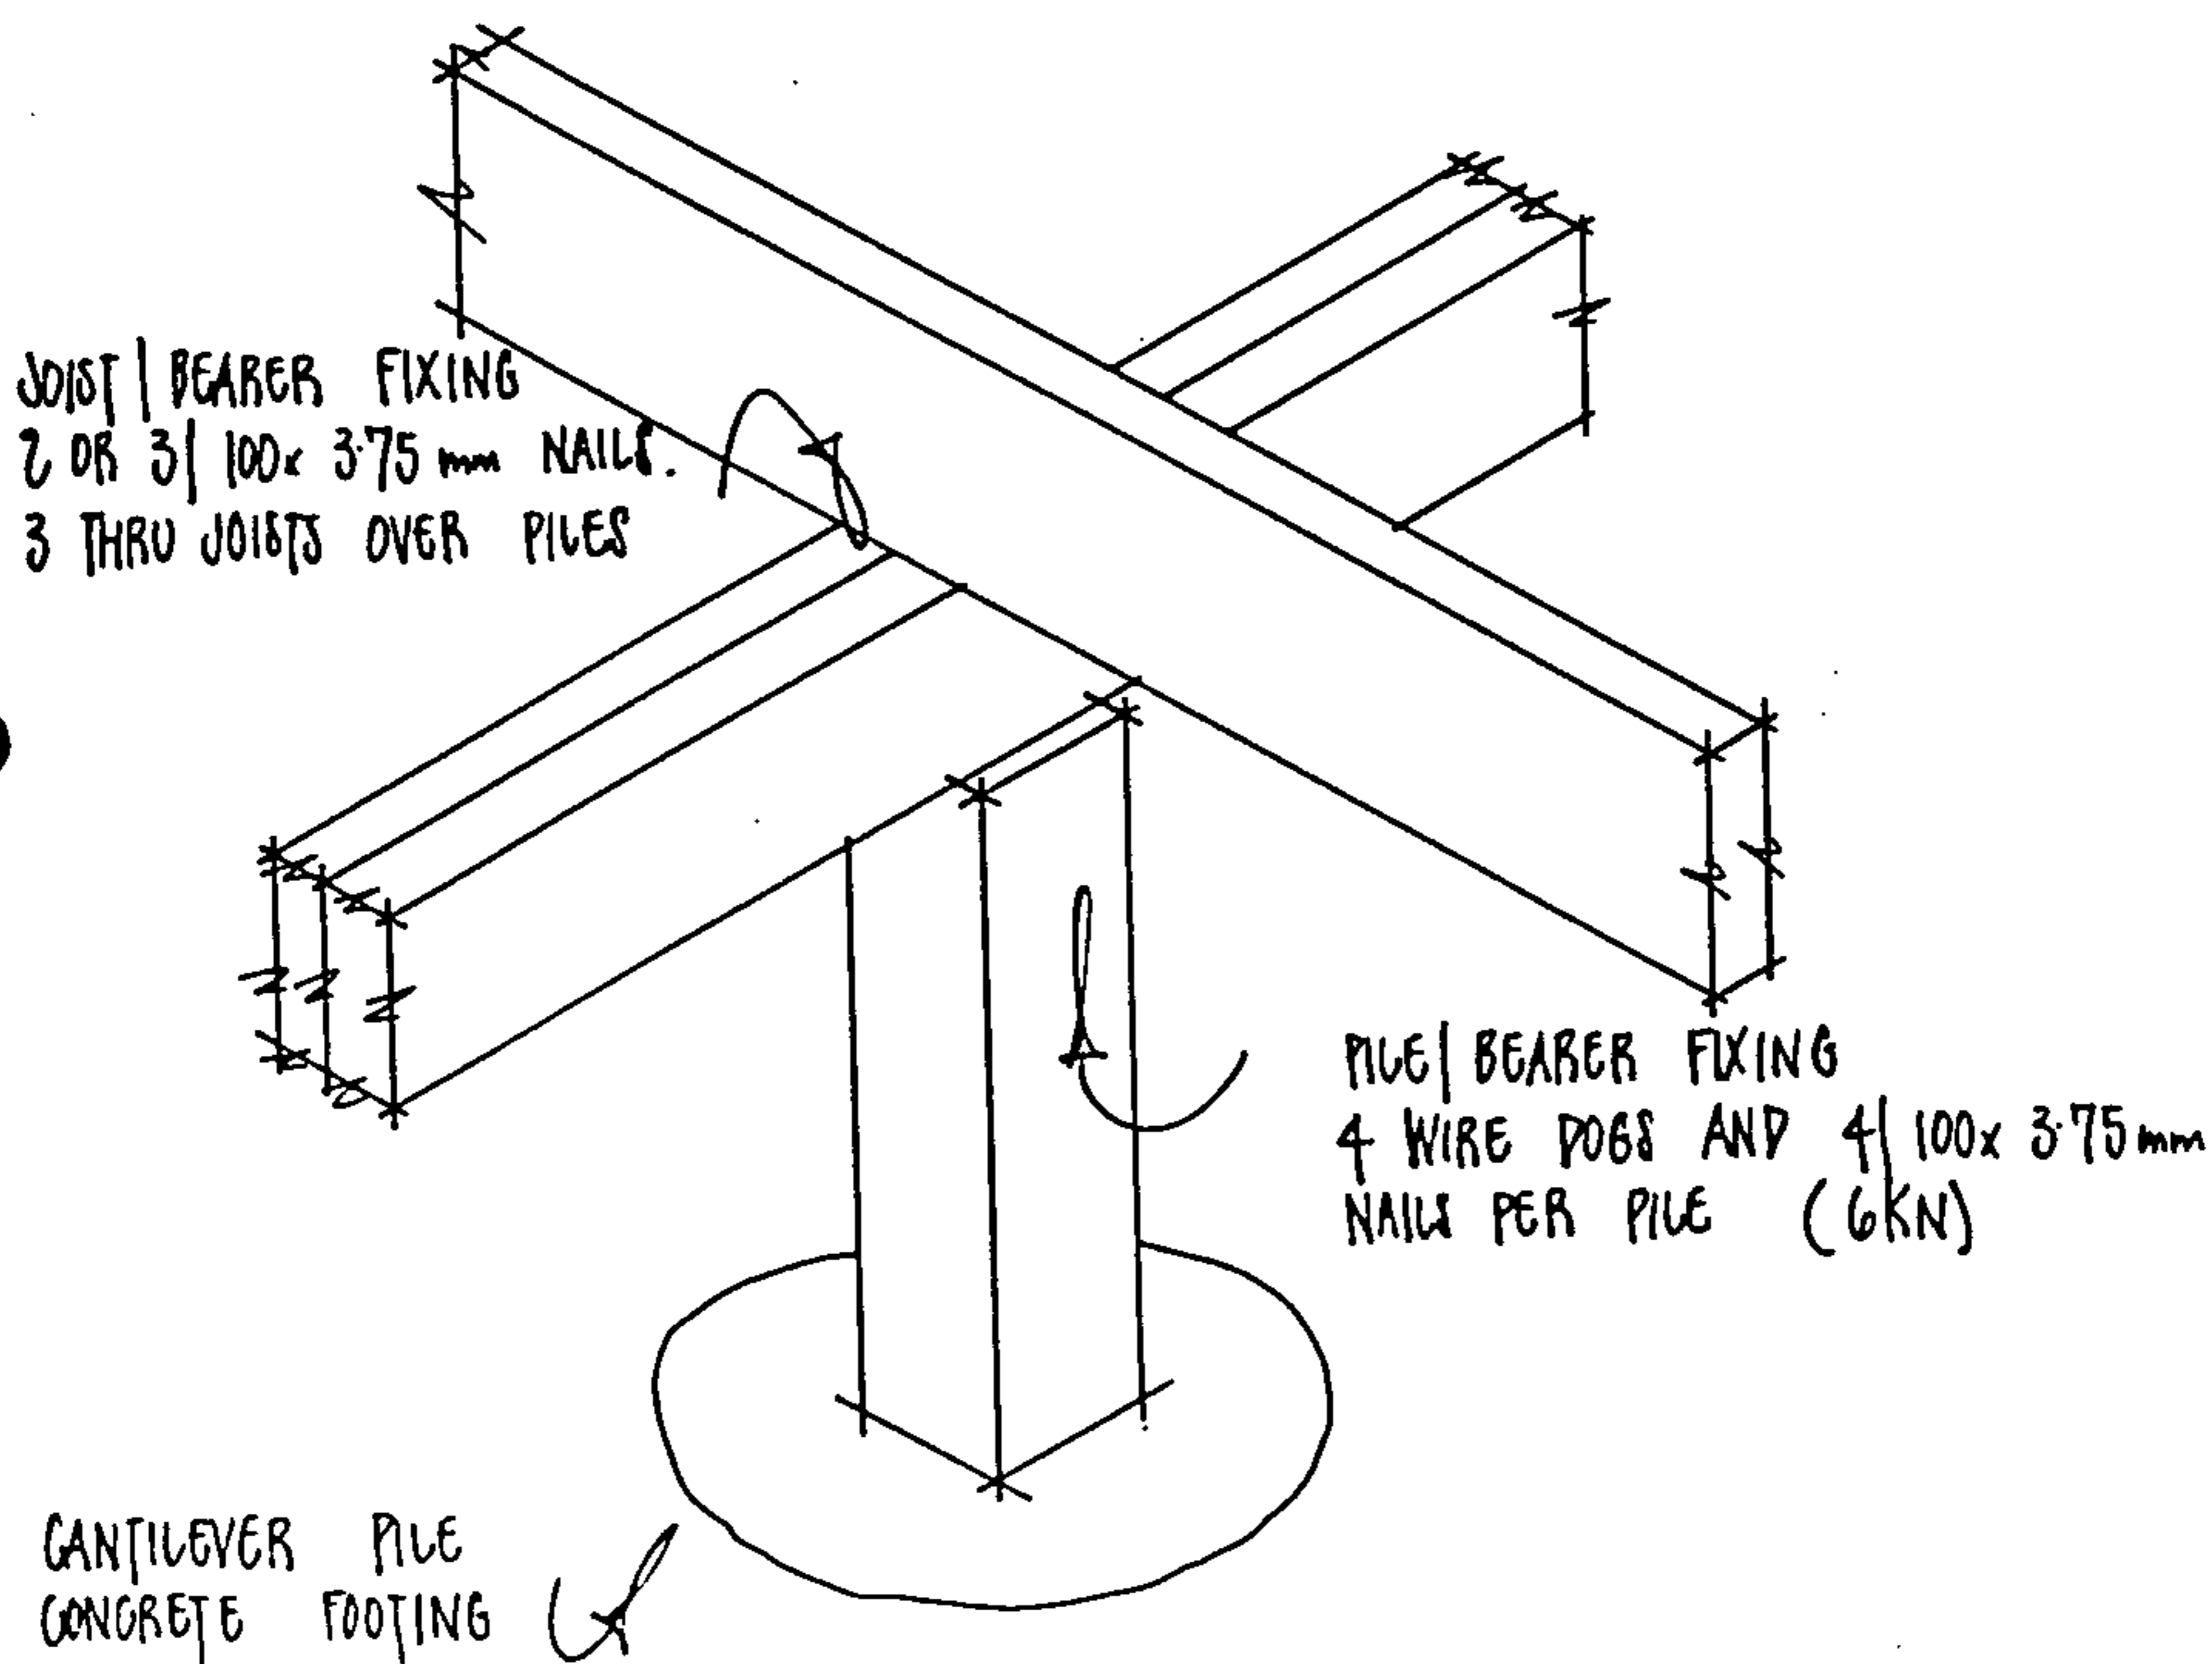

Fig. 13
- CANTILEVERED PILES. THE FIXING OF A BEARER TO A CANTILEVERED PILE SHALL BE AS SHOWN IN FIG. 13 OR AN ALTERNATIVE FIXING OF 6 KN SHEAR CAPACITY.